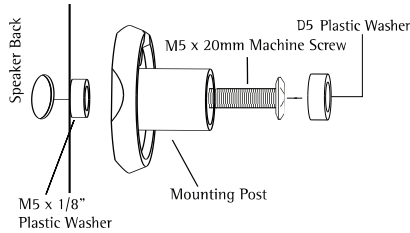

Figure 1
- Most satellite speakers will require the use of the M5 x 20mm machine screw used in combination with the M5 x 1/8" plastic washer. The plastic washer is used as a spacer between the threaded insert and the post (Figure 1).